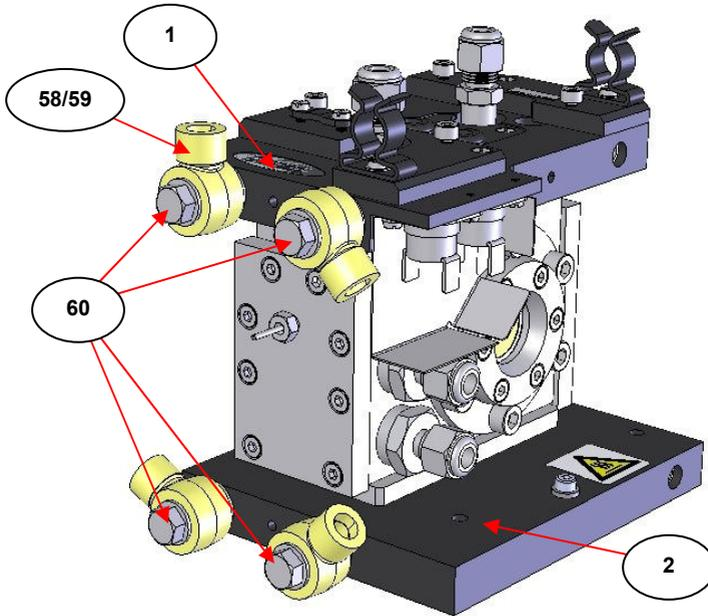

Fig 6. Positioning of the Banjo Water Connection Fittings
Replace the standard water fittings (4) with the supplied banjo fittings (58) and their sealing washers (59). The banjo fittings (58) are tightened to the water cooled plate connection points using an **11mm A/F spanner** against the central bolt fixing (60). The sealing washer (59) is placed between the banjo fitting (58) and the water cooled plate. **Fig 6.** shows the positioning of the banjo fittings (58) and their washers (59) as they will be when the Nylon tubing connections have been made. At this stage though, as shown in **Fig 6.** and before connection of the Nylon tubing, the banjo fittings (58) should **not be fully tightened** into the upper (1) and lower (2) water cooled plates, such that they are free to rotate for easier connection of the Nylon tubing.